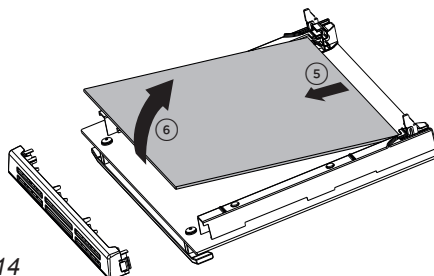

Fig. 8.14
- Gently lift and pull out the middle pane of glass by releasing it from the bottom retaining notches (fig. 8.14).